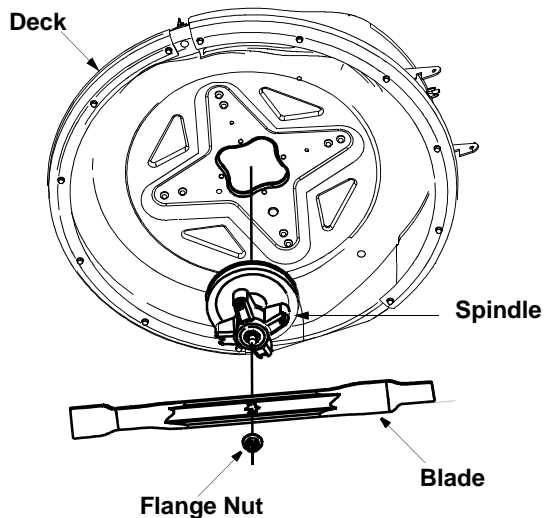

Figure 15
- Remove blade from the spindle. See Figure 15.